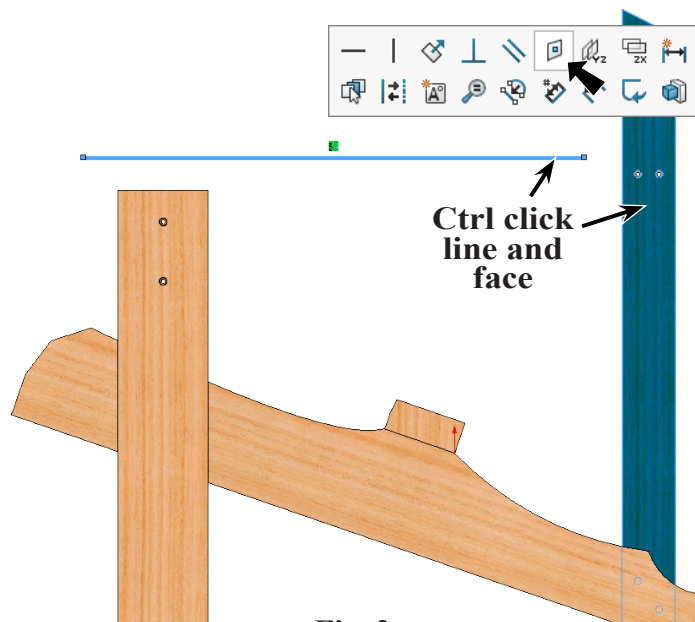

Fig. 2
Step 7. **Ctrl click Line and side face of Back Leg** to select both. **Release Ctrl key and click Make On Plane**  on the context toolbar, **Fig. 2**.